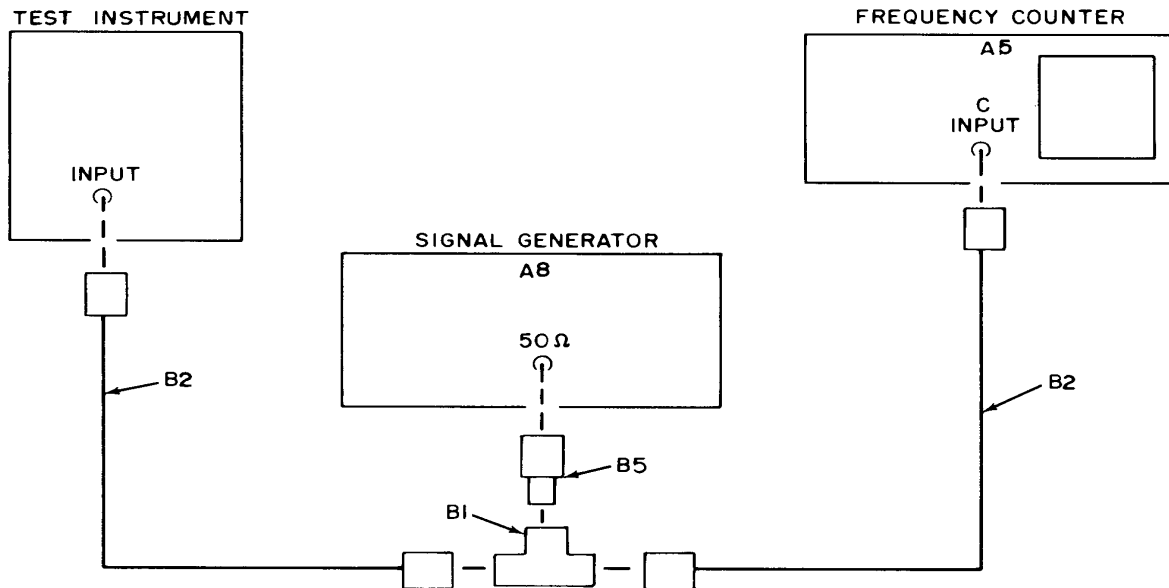

Figure 2. Frequency and bandwidth - equipment setup.
(1) Connect equipment as shown in figure 2.